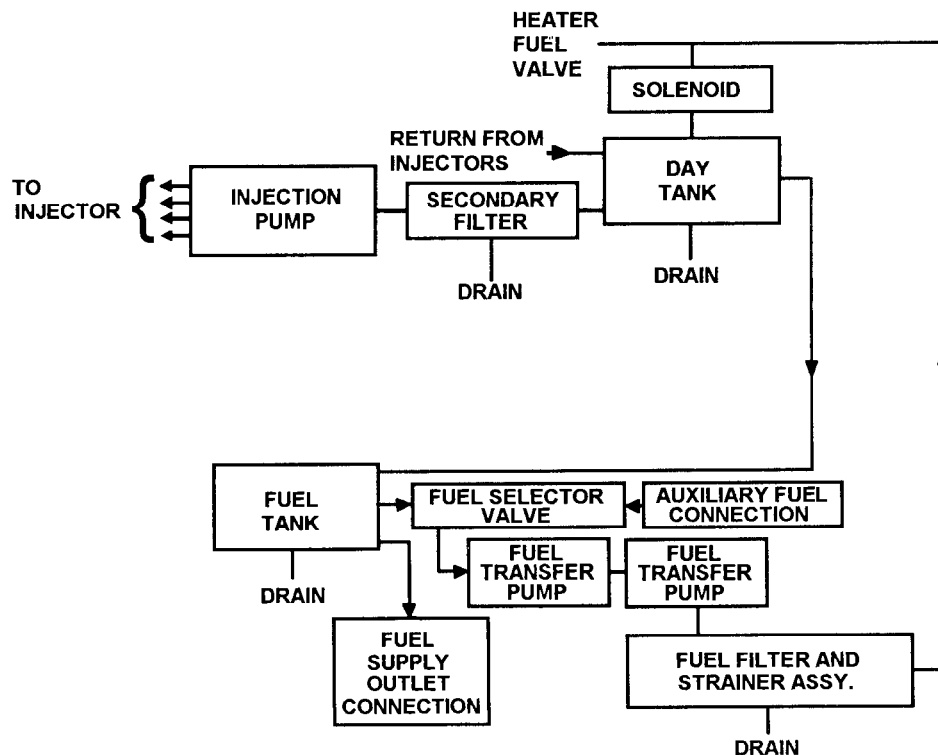

Figure 1-7. Fuel System Diagram
- (15) Fuel System Diagram. Refer to Figure 1-7.
- a. The fuel system (Figure 1-7) consists of piping, fuel tank, transfer pumps, fuel filters, strainer assembly, heater fuel valve, fuel solenoid, day tank, secondary filters, injection pump, and injectors. Fuel is drawn from the generator day tank by the transfer pump when the START/RUN/STOP switch is in the RUN position. After reaching the transfer pump, fuel passes through a fuel filter and strainer where water is removed. Then the fuel goes through a filter where small impurities are removed. Then the fuel goes through the fuel solenoid into the day tank and passes through the secondary fuel filter to remove impurities. The fuel also goes to an injection pump where it is pressurized and forced through the injectors into the combustion chamber, where it is mixed with air and ignited. The unused fuel is returned to the generator day tank via an excess fuel return line.